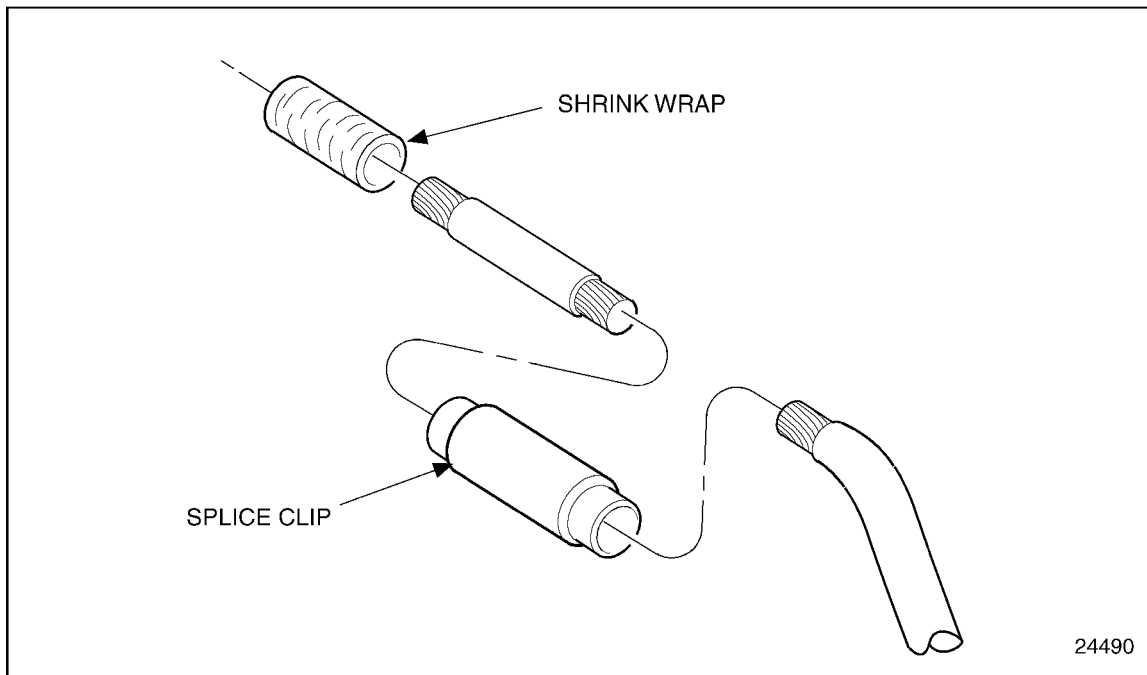

Figure 8-19 Spliced Wire
5. Insert the other wire into splice and crimp. See Figure 8-19.